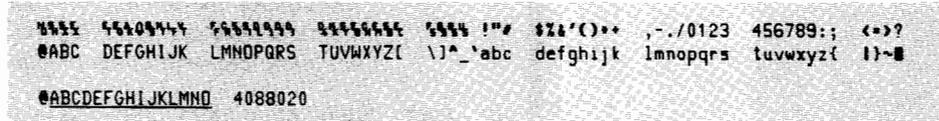

Figure 6-1. 2621A/P Test Pattern
1. At the keyboard, hold down **[SHIFT]**, and press the TEST function (**[]**). In approximately five seconds, a test pattern (figure 6-1) or an error message (table 6-1) will be displayed on the screen.
2. If the test pattern is good, a self-test pattern and primary terminal status is displayed on the screen (figure 6-1). Refer to the Strapping Section for test pattern and terminal status interpretation.